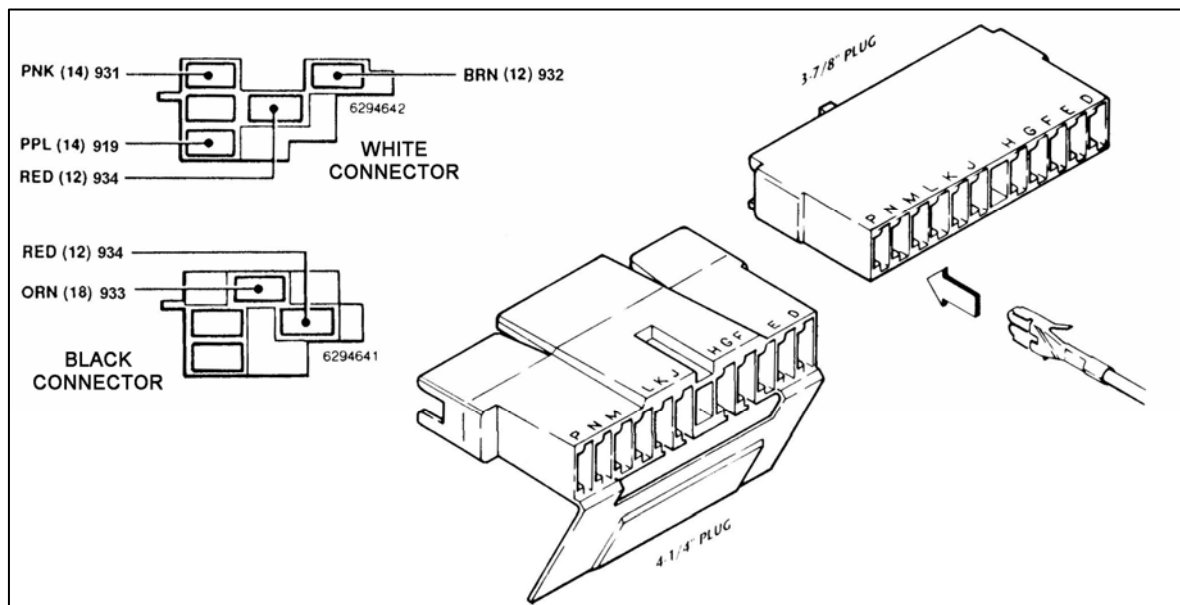

Figure 7-5 GM Turn Signal Connectors
7.4.1 There are two different plugs on most tilt columns. The difference is in the length of the male plug that is mounted ON THE COLUMN. One plug is 3-7/8" (3.875") long and the other is 4-1/4" (4.250"). This is only a difference of 3/8" (0.375"), so measure the plug carefully. The Wire Harness Kit has included two different female connectors to mate with the column-mounted plug. See **Figure 7-5** to determine which female connector is correct for your automobile.
The TURN SIGNAL SECTION wires may have already been terminated for you. If not, cut wires to length and install the terminals provided. Choose the proper plug and install the terminals according to **Table 7-1**, as shown in **Figure 7-5**. The GM wire color codes have been included for reference. **Note:** The terminals will only insert into the connector ONE WAY, as shown in **Figure 7-5**. Make certain you are inserting the wire into the CORRECT LOCATION as the terminals are difficult if not impossible to remove once inserted.
- 7.4.2 Some harness' come with the GM ignition switch connectors pre-wired. See **Table 7-1** and **Figure 7-5** for color codes, wire numbers, and wire designations for the Ignition Switch Connectors.